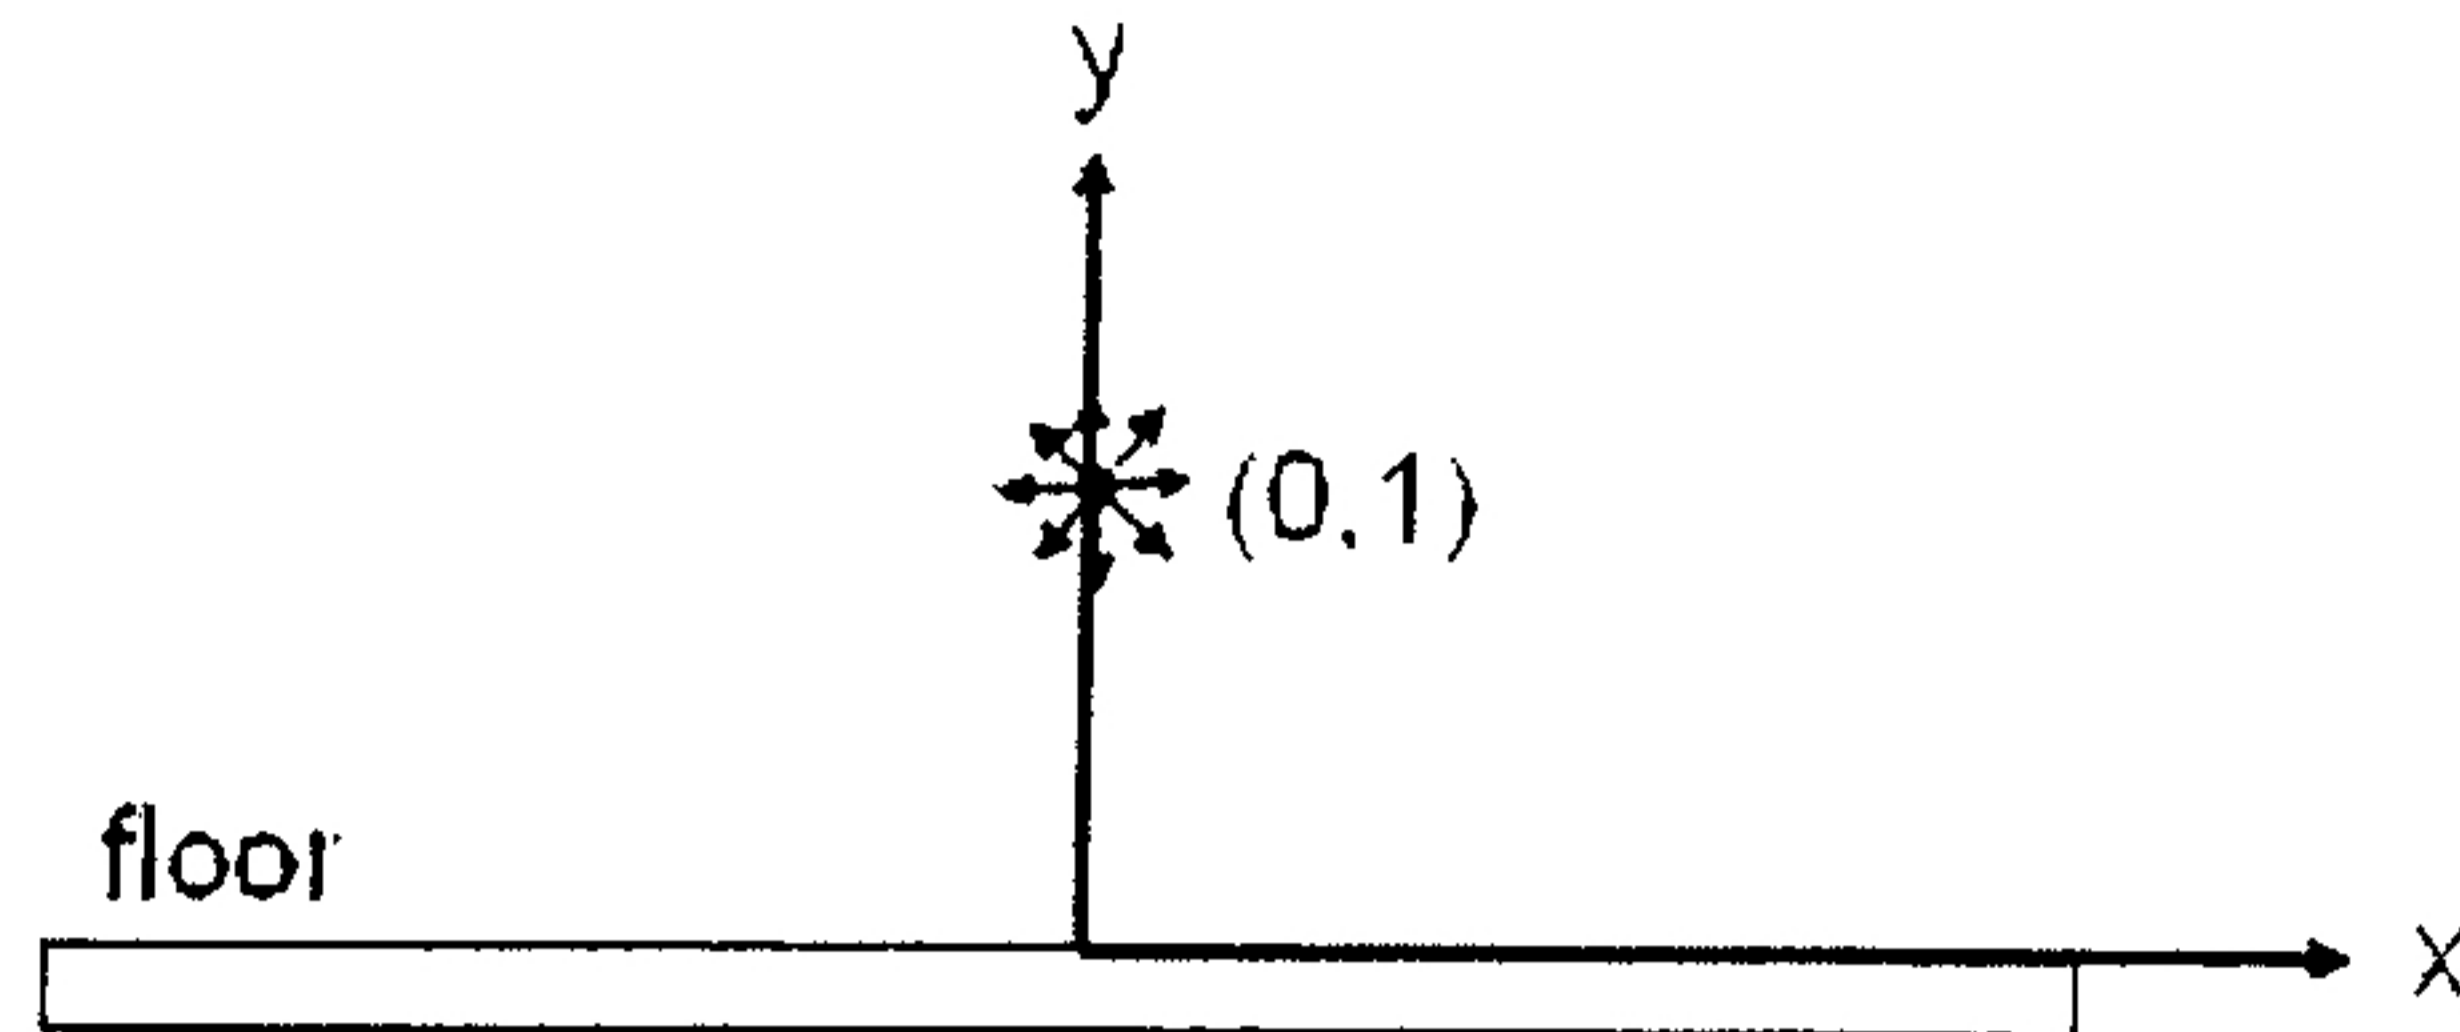

Figure 3
3. Consider a two-dimensional flow field which is formed by a source of strength Λ located above a floor. The source is located at $(0, 1)$, as shown in Figure 3.